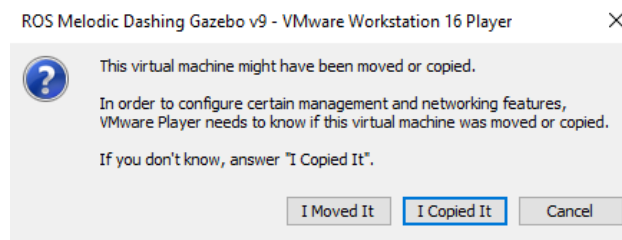

Figure 2: Virtual Machine first time message
4. The first time you start the virtual environment you will get a notification whether you moved or copied the file. Select the option “I copied it” as shown in Figure 2.